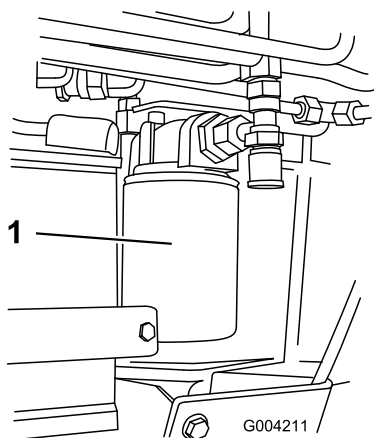

Figure 53
4. Place a drain pan under the filter (Figure 53).
5. Remove the old filter (Figure 53) and wipe the surface of the filter adapter gasket clean.
7. Install the replacement hydraulic filter onto the filter adapter (Figure 53). Tighten it clockwise until the rubber gasket contacts the filter adapter, then tighten the filter an additional 3/4 turn.